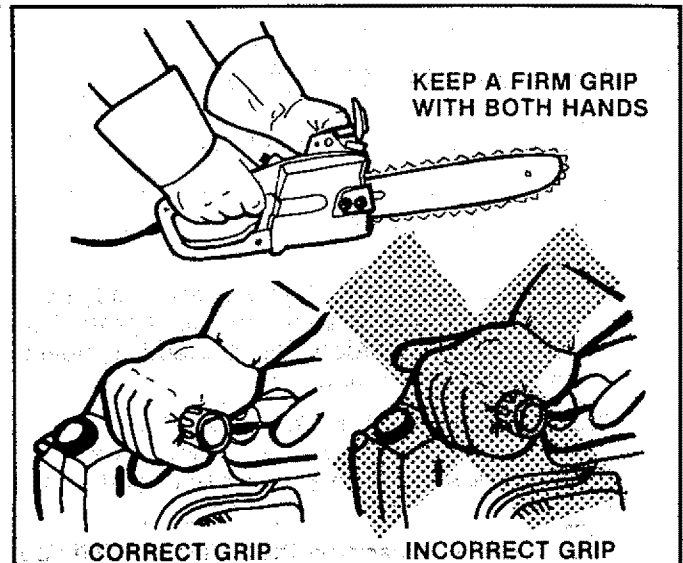

Figure 14
- a. **Keep a good firm grip on the saw with both hands.** Figure 14. A firm grip can neutralize kickback and help you maintain control of the saw. Keep the fingers of your left hand encircling and your left thumb under the front handlebar. Keep your right hand completely around the rear handle *whether you are right handed or left handed*. Keep your left arm straight with the elbow locked.